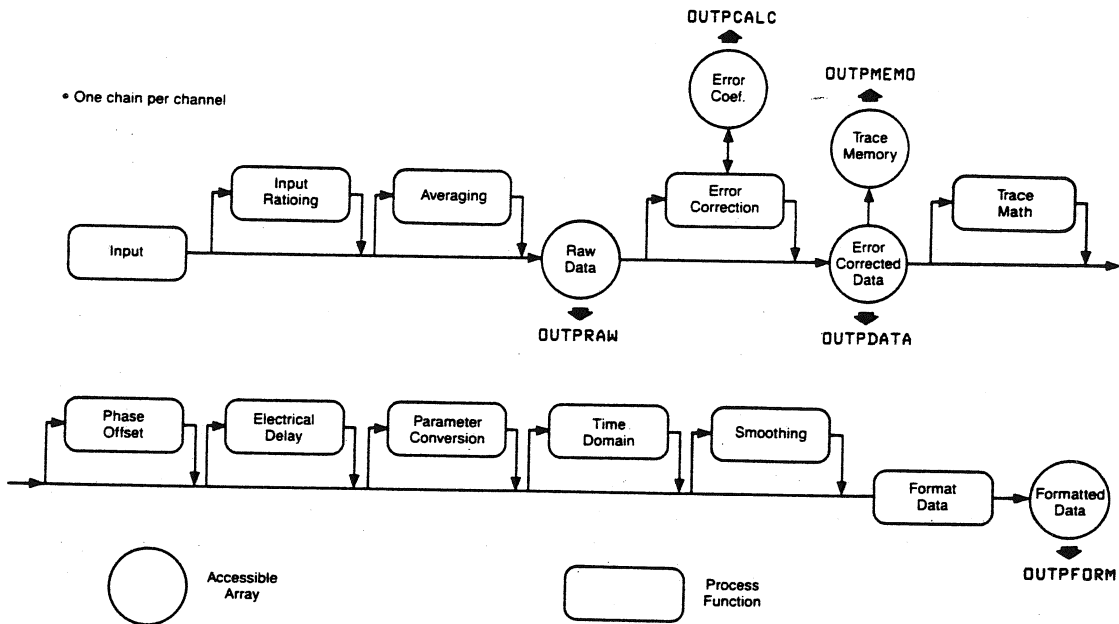

Figure 1. Data processing chain
2. Request the data from the network analyzer. For marker data, this is always done by the command `OUTPMARK`. For an entire trace, the desired data format and level must be specified. The analyzer can transmit data over HP-IB in five different formats, three of which are shown in the following example programs. The level of the data is determined by the `OUTPxxxx` command used. (See Figure 1.) The different data levels are as follows: